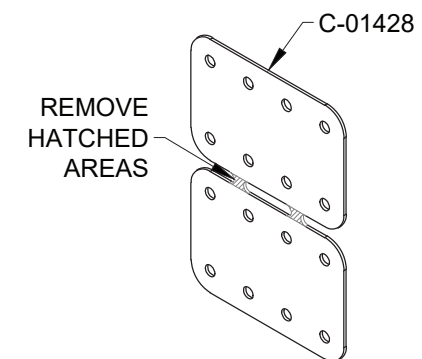

FIGURE 3: CANOPY FRAME SPLICES
Step 7: Separate the C-01428 Canopy Frame Splices as shown in Figure 3.